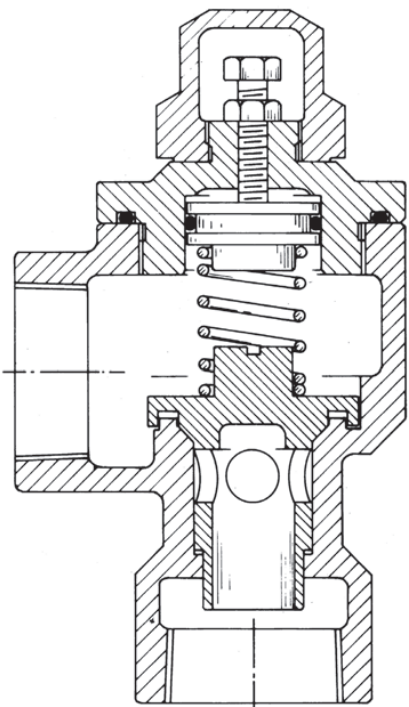

Figure 19
- 1. **Constant Bleed System (CBS) option (Figure 19)** provides for controlled 'bleed-off' of vapor, enhancing self-priming and vapor clearing capabilities of the pump. **NOTE:** All Blackmer bypass valves use a similar hole to both equalize pressure and "bleed off" vapors.